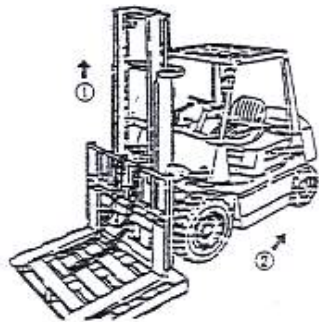

Fig. 2-71
- (1) Put a pallet on the fork and park the machine on a flat ground.
- (2) Lower the fork and pallet on the ground.
- (3) Remove the upper end connector of chain and take off the chain from the sprocket wheel.
- (4) Lift the internal mast (① in Fig. 2-71).
- (5) Confirm the fork arm carrier is separated with the external mast. Drive the machine back (② in Fig. 2-71).
- (6) Replace the main roller.